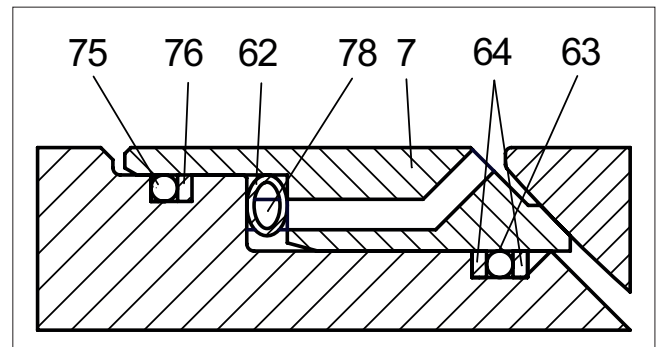

Fig. 10 E seat
- Place the back seals (63, 75) into their place in the body grooves. See Figure 10.
- Place the back-up rings (64, 76) made of PTFE strips on both sides of the back seal (63) and beside the back seal (75). To ensure that the seam becomes flexible, the strips must have slanted ends.
- Place the spring (62) into the groove in the seat (7). Connect the ends of the spring.
- Place the seats into the body by hand and make sure that the pin (78) in the body, which prevents the seat from rotating, goes into the hole in the seat. Note that the bore through the seat is an ejector hole. If necessary, use a plastic mallet.